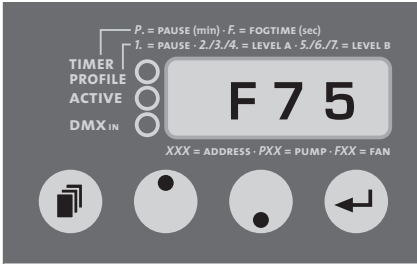

Fig. 2: Adjusting the fan output
- b) Press the Mode-button [14] at the control panel until an F and two figures appear on the LED display [17] (see Fig. 2).
- Press the Mode-button [14] again until an F and two figures appear on the display [17] (see Fig. 2).